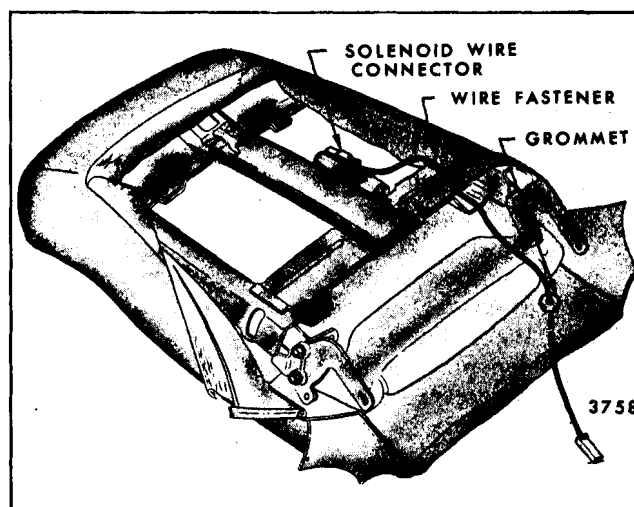

Fig. 14-49-Electric Seat Back Wire Routing through Seat Back-Strato Seats
1. Remove front seat back panel, as previously described. On seats with electric seat back locks, disconnect solenoid feed wire at connector (Fig. 14-49).
NOTE: If any service operations have been performed on the seat back where the lock solenoid wire has been disturbed, make certain solenoid wire is routed and secured to the seat back frame, as shown in Figure 14-49.
solenoid wire is routed and secured to the seat back frame, as shown in Figure 14-49.